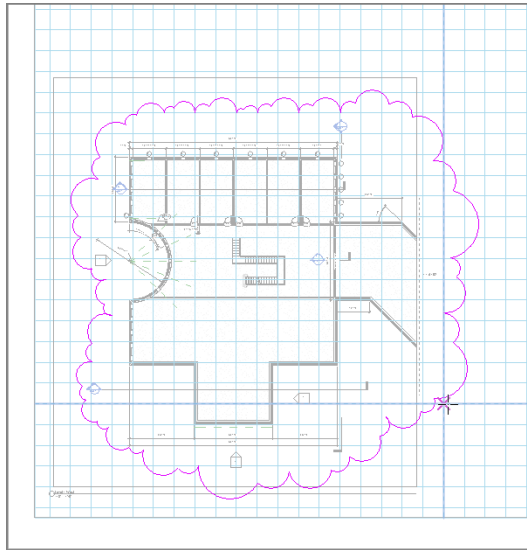

FIGURE 14.18: Placing a revision cloud
3. Place a revision cloud around the plan, as shown in Figure 14.18.